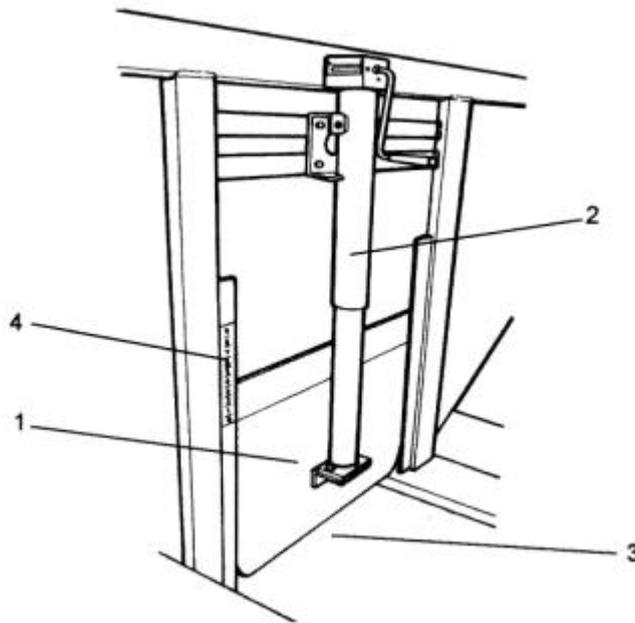

Figure 9
29. The flow of the fertiliser is controlled by a flow control shutter (5). The fertiliser then falls from the belt (6) on to the six finned spinners (3) which throws the fertiliser out in a 25 metre broad span (Fig 9).
30. The flow of the fertiliser out of the bin is controlled by a shutter (1). The screw thread shutter control (2) is manually operated (Fig 9).
31. The volume allowed through on the belt (3) is indicated by a scale (4) on the end of the bin (Fig 9). Each segment on the scale indicates 100 kgs per hectare (approx) or 1 cwt per acre (approx).
41. Figure 9 and 10 indicates the grease nipples (GP) on the spreader.